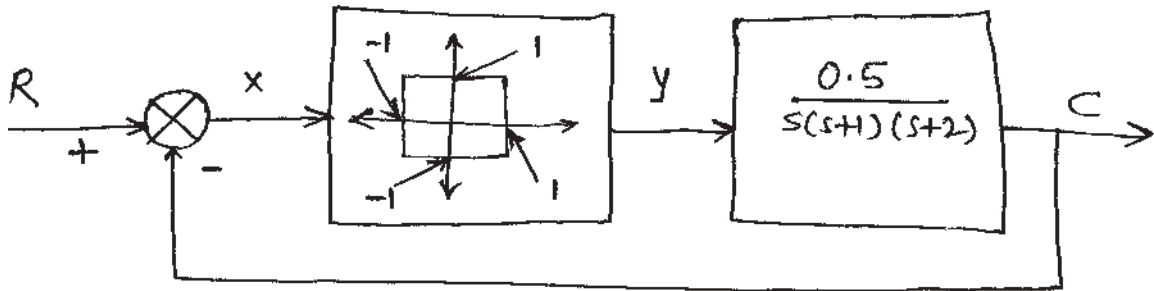

Fig. 3
- Q3) Consider a system as shown in figure 3. Find the amplitude and frequency of limit cycles. Also comment on nature of limit cycle (s) and stability of system. [16]